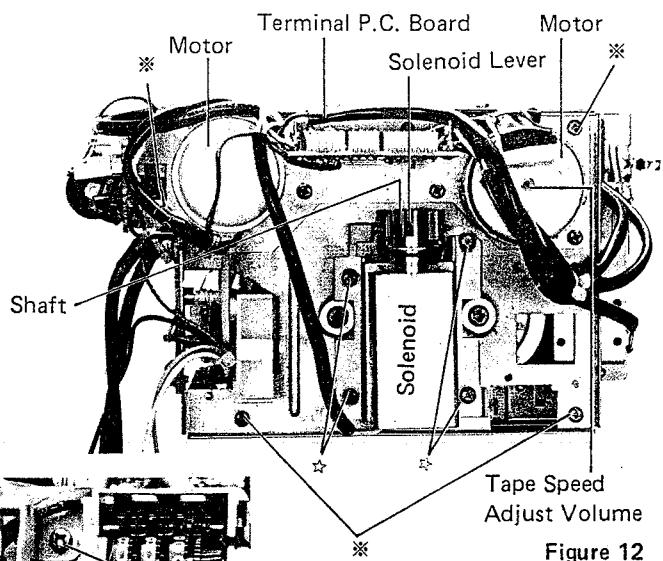

Figure 12
- (2) Remove four screws marked “★” as shown in Figure 12 and remove head solenoid.
- (3) Remove shaft that is holding solenoid lever as shown in Figure 12.
- (4) Remove four screws marked “※” from the sub chassis as shown in Figure 12.
- (5) The sub chassis can be completely removed from the cassette deck chassis, and then remove the sub belt or motor belt.